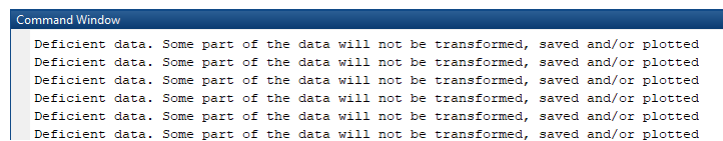

Figure 5: Deficient data error
1. During operation DataReceiver.m might give deficient data error as shown in Figure 5. If you get this error too much (around once a second) it is recommended to reduce the value of **ProcessRawDataThresholdInBytes** inside the DataReceiver.m routine.